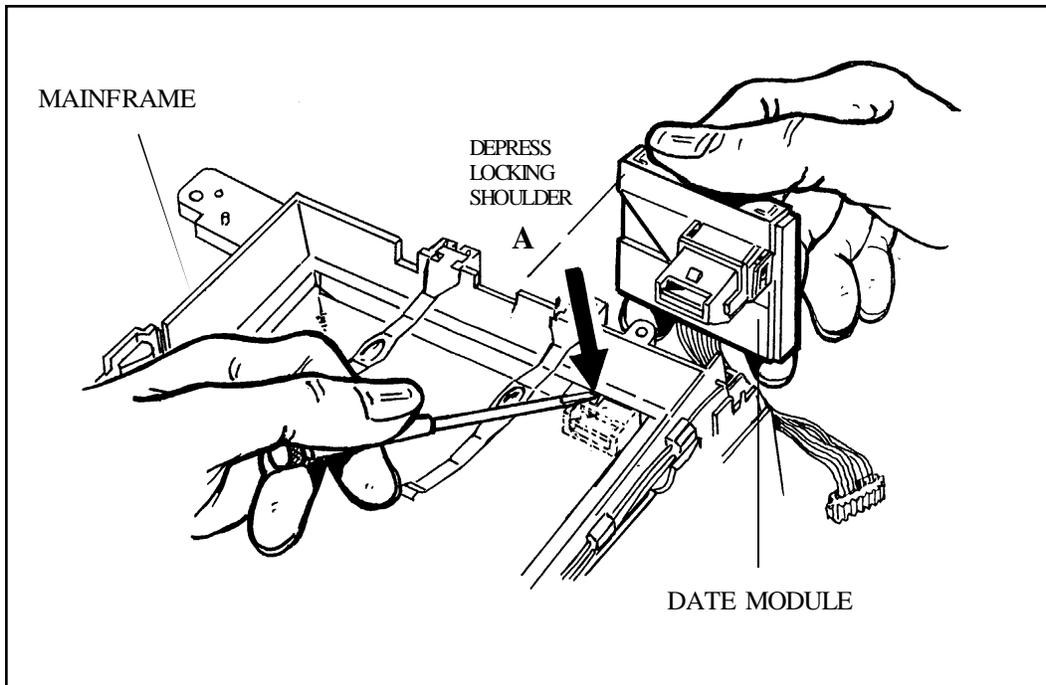

Fig. 3-26. Removing Date Module from Mainframe
- c. Remove Date Module from Mainframe by depressing the locking shoulder **A** in the Mainframe and sliding Module out (Figure 3-26).